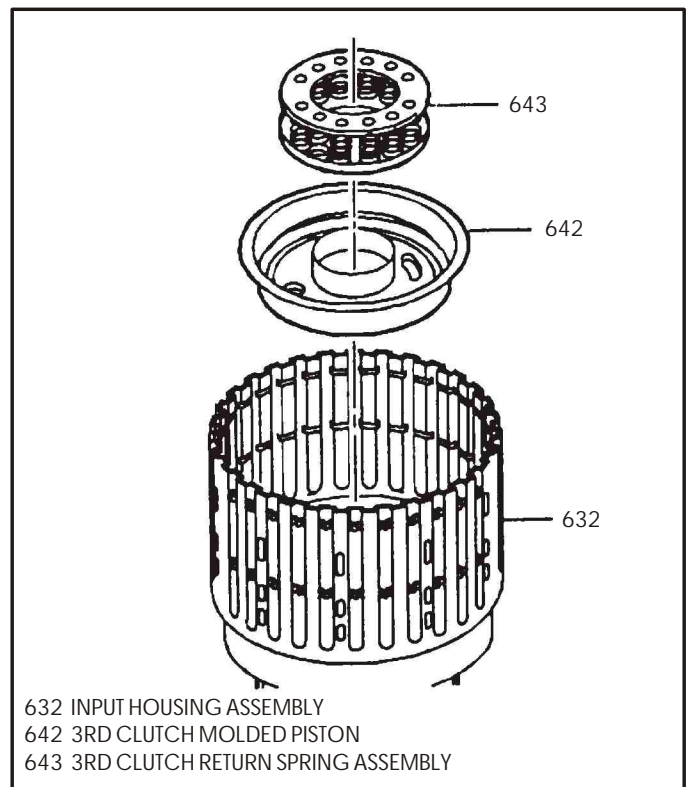

Figure 112
29. Install the 3rd clutch piston into the housing with a twisting motion (See Figure 112).
30. Install the 3rd clutch return spring assembly on top of the 3rd clutch piston (See Figure 112).